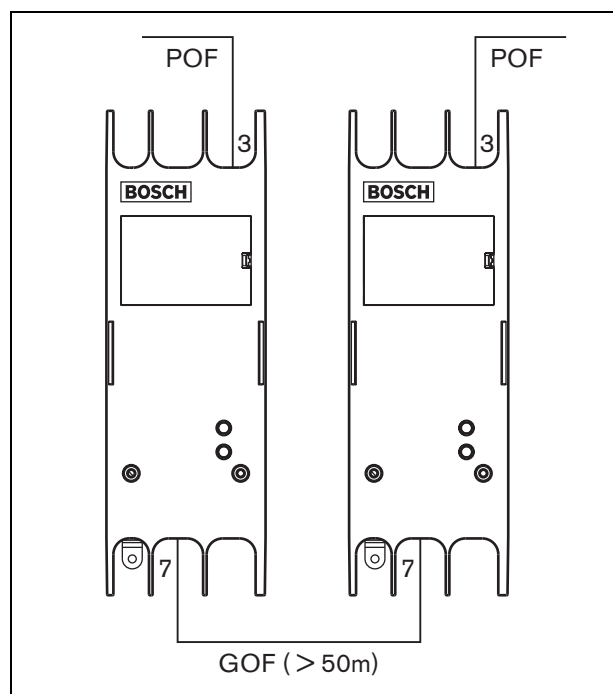

figure 32.4: Using fiber interfaces
Due to light loss, the maximum length of POF cabling (and therefore also system bus cables) between two pieces of equipment is 50 m. If the distance between two units is more than 50 m, PRS-FIN(NA) or PRS-FINS Fiber Interfaces and glass optical fibers (GOF) must be used (see figure 32.4).